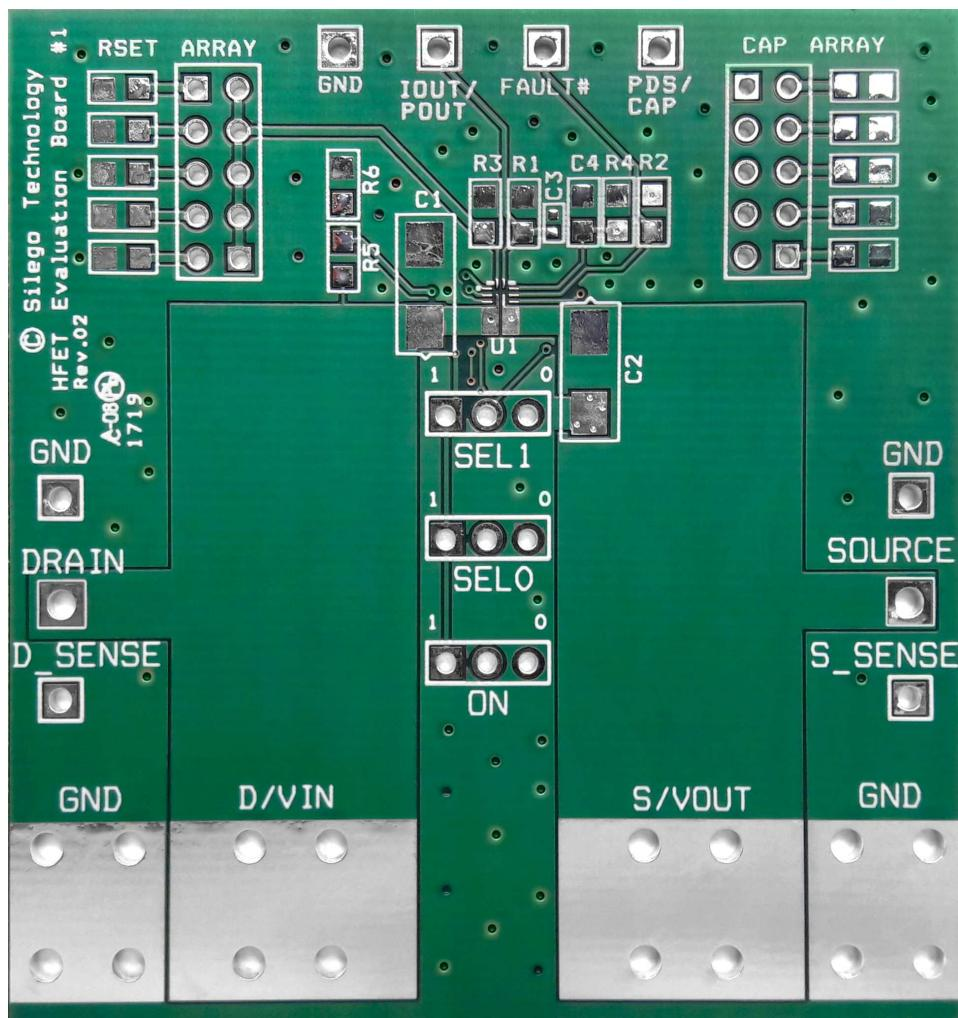

Figure 14. SLG59H1010V Evaluation Board
1. Since the VIN and VOUT pins dissipate most of the heat generated during high-load current operation, it is highly recommended to make power traces as short, direct, and wide as possible. A good practice is to make power traces with absolute minimum widths of 15 mils (0.381 mm) per Ampere. A representative layout, shown in Figure 14, illustrates proper techniques for heat to transfer as efficiently as possible out of the device;
A High Voltage GreenFET Evaluation Board for SLG59H1010V is designed according to the statements above and is illustrated on Figure 14. Please note that evaluation board has D_Sense and S_Sense pads. They cannot carry high currents and dedicated only for RDS_{ON} evaluation.